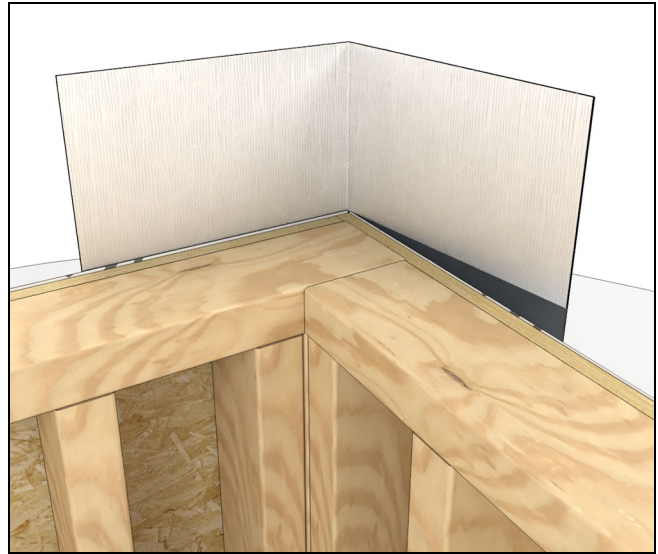

Figure 17
3. Center the material on the corner and adhere to the outside face of the building at the sill. The flashing must come down over the exterior at least 2". See Figure 17.